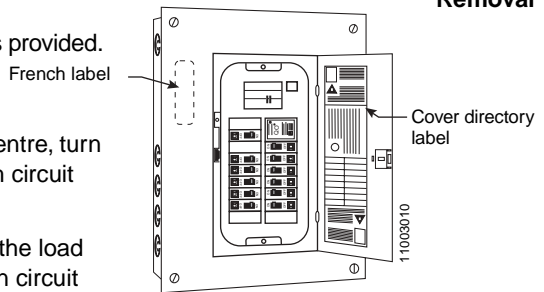

Figure 9: Label Locations on Load Centre Cover
2. Attach the French translation label, supplied with the load centre, to the rear of the cover. See Figure 9.